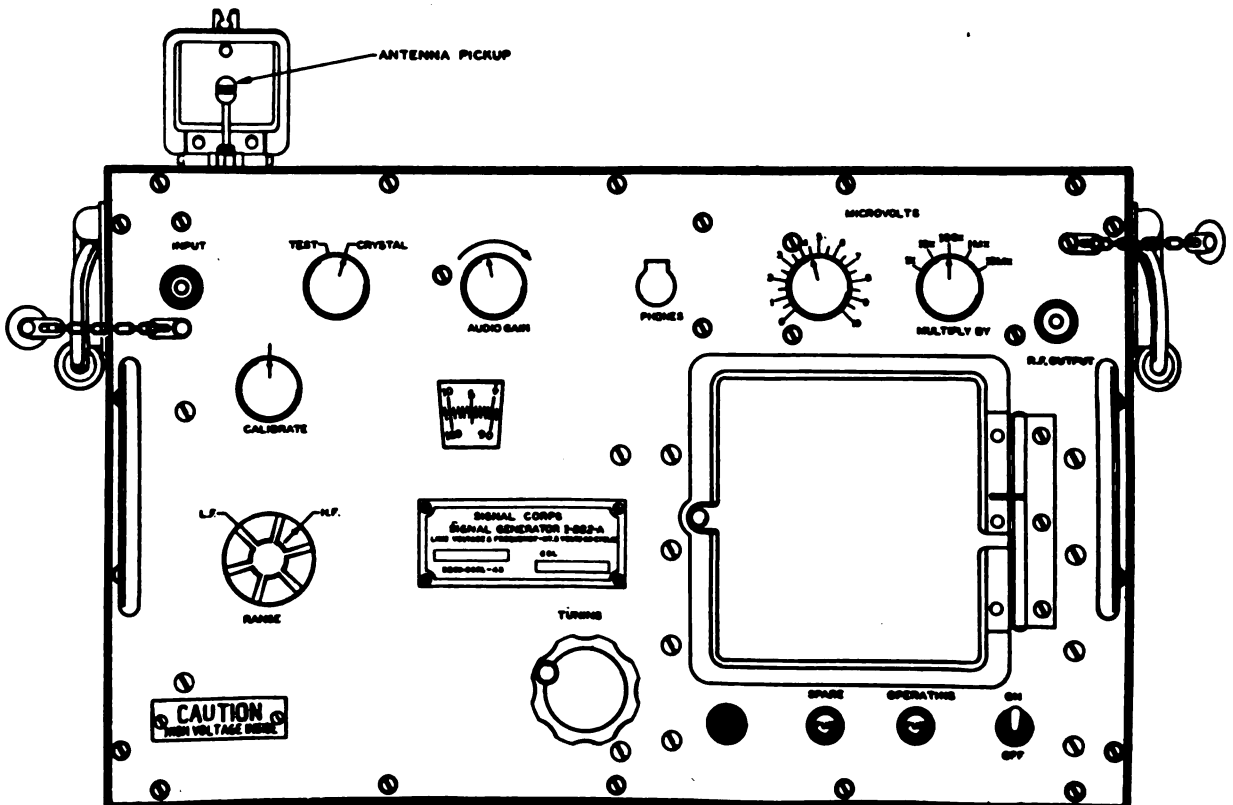

Figure 75. Signal Generator I-222-A, front panel.
Tune the transmitter to the chosen operating frequency by use of the wavemeter section of Signal Generator I-222-A (fig. 75). As a preliminary step, calibrate the signal generator (see section II of TM 11-1082 supplied with the signal generator).
c. Tune the signal generator to the same frequency as the transmitter frequency. Set the attenuator dial (marked MULTIPLY BY, fig. 75) to the 1 Mx position.